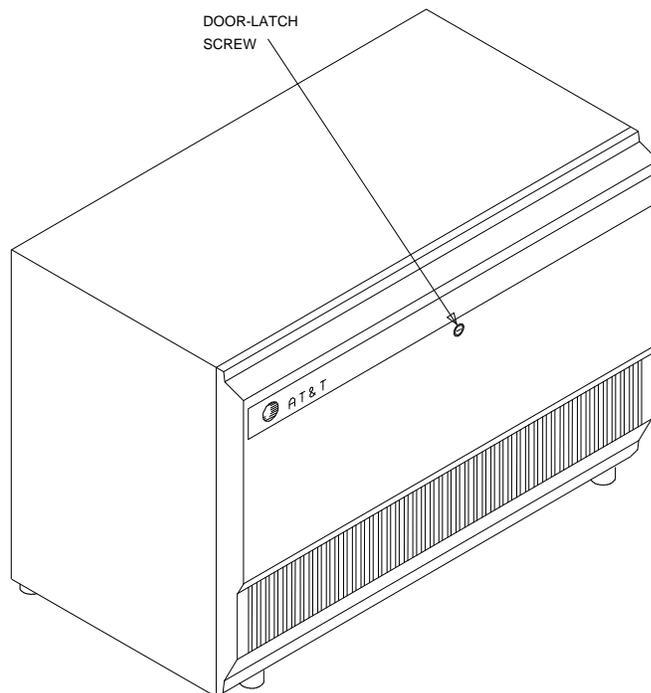

Figure 3-2. Location of Door-Latch Screw
1. Use a screwdriver, and turn door-latch screw counterclockwise one quarter turn to release door (see Figure 3-2).